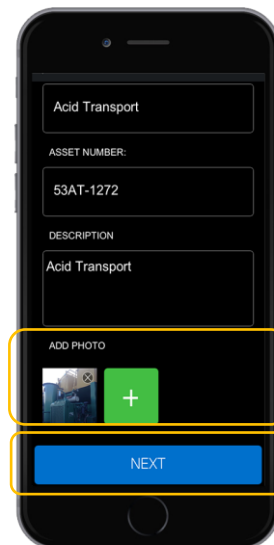

FIG. 3
- 5) Scroll down the screen to the “Add Photo” section (FIG. 3). Here the user will take a photo of the asset. A photo must be submitted to move to the next step. Tap “Next.”